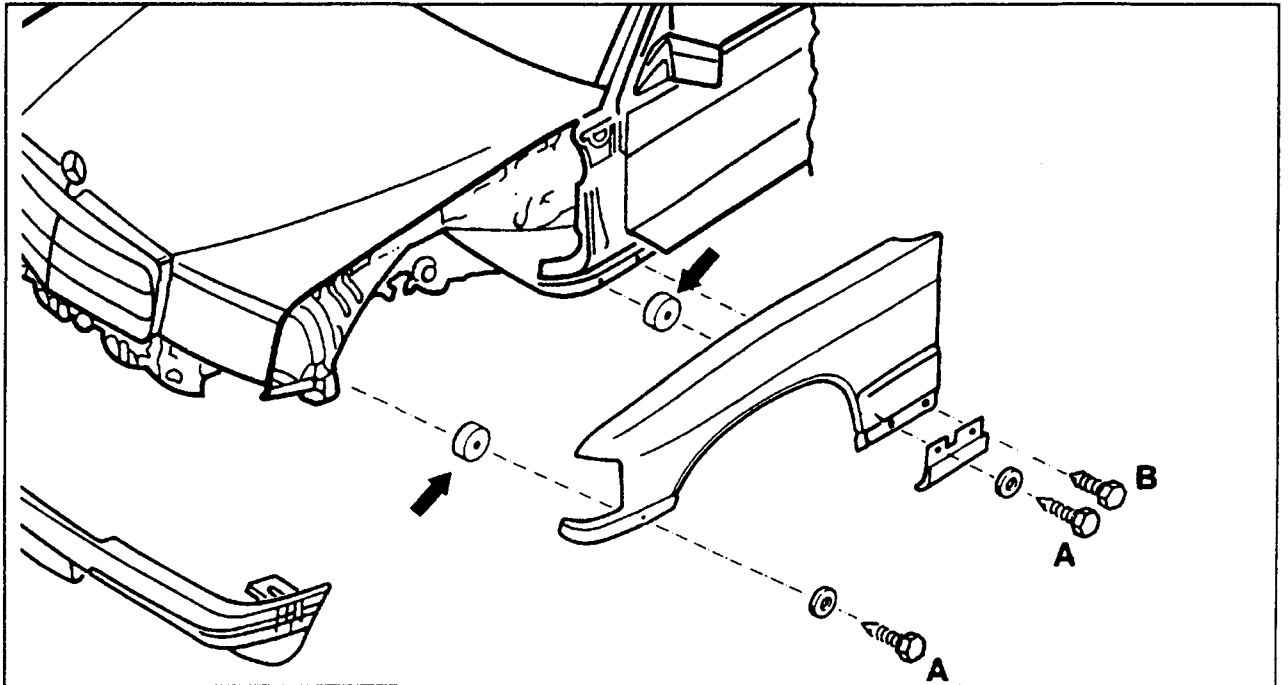

Figure 13
5. Press sides of bumper downward and unscrew bolts (A and B, Figure 13). Position spacers (arrows) between fender and body as shown. Ensure that the holes align for easier installation.